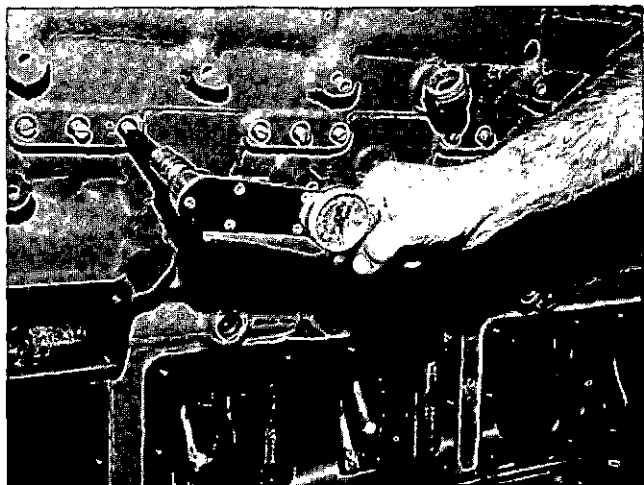

Fig. 14-1-37, V414139. Tighten tappet guide screws
3. Tappets are kept from turning by guide screws with copper washers. Install washers and screws and torque screws to 95 to 115 inch-lb [1.0925 to 1.3225 kg m] Fig. 14-1-37; lockwire each set of three.